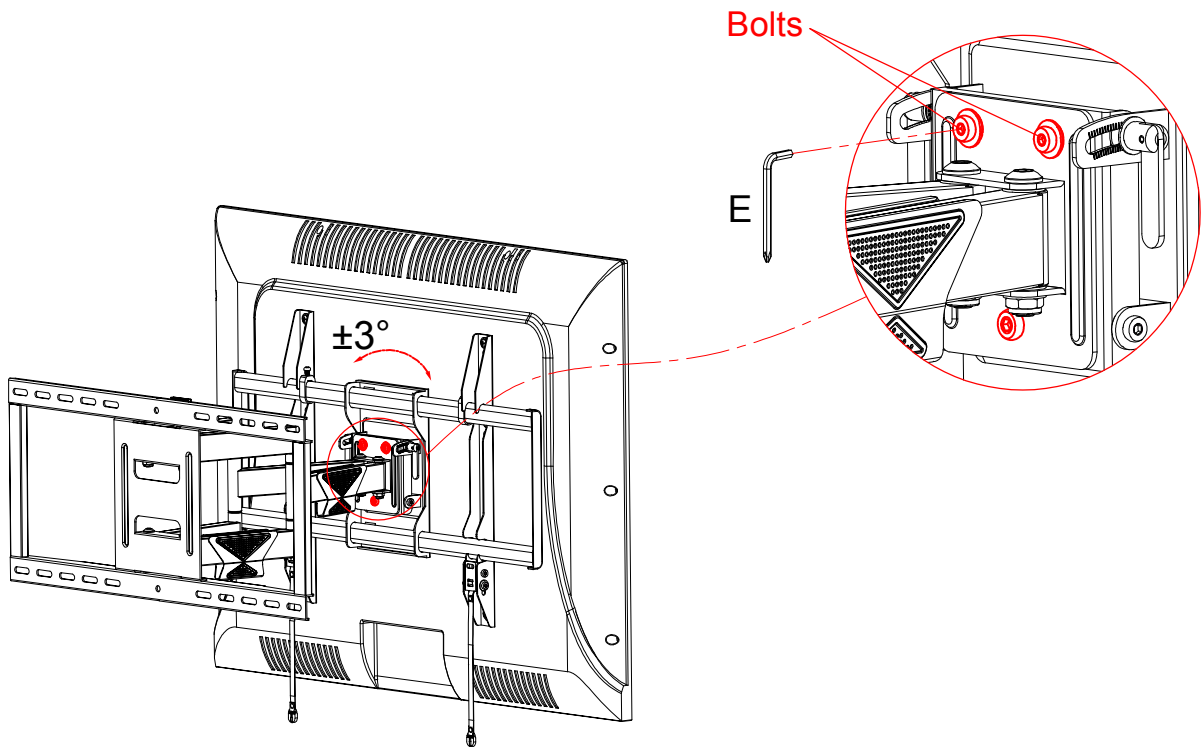

Figure 6
**Step 5:** Make sure the TV unit is horizontal, you can adjust the TV plate a little bit (+3/-3 degrees) to level the TV, then fasten TV plate by bolts with Allen key (E). (Figure 6)